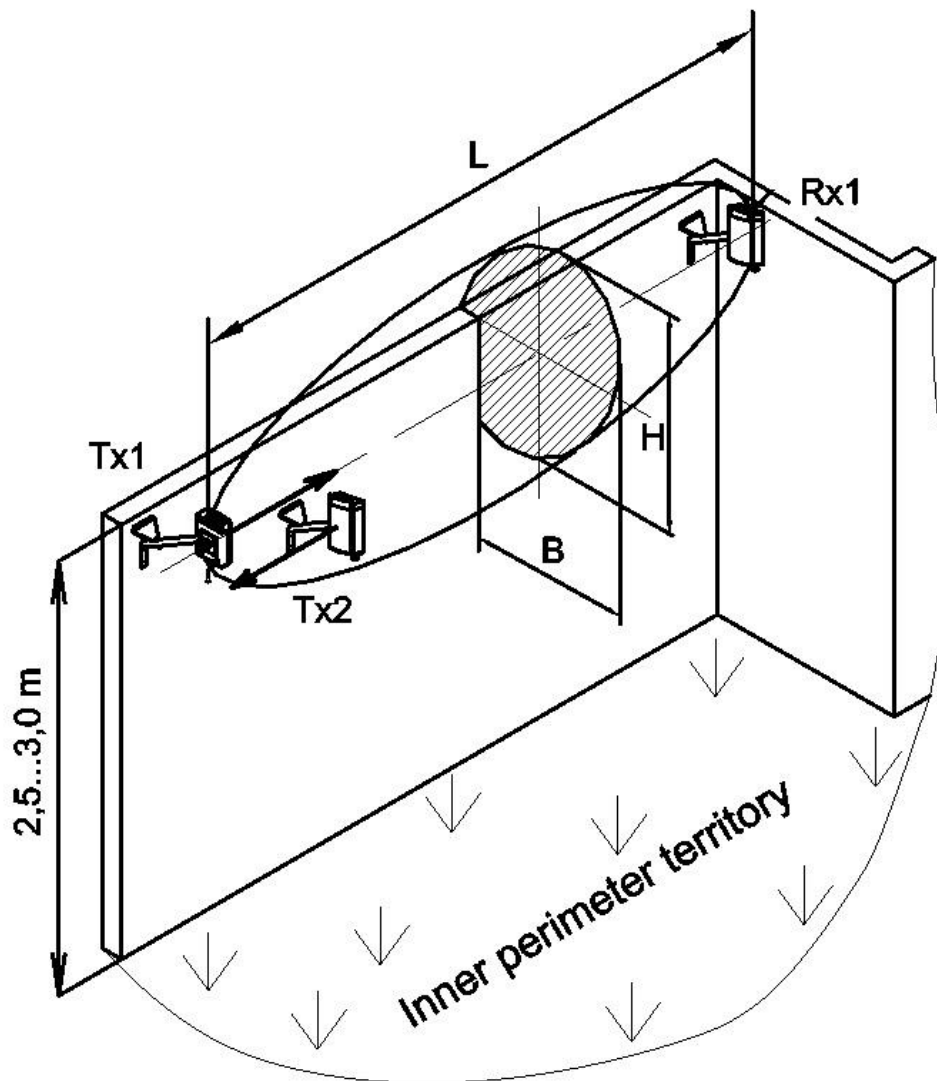

Fig. 2.4
2.2.5. The mounting kit (MK) for mounting on the top of the fence can be delivered on the customer order to protect the perimeter site from the intruder climbing over the fence and the intrusion into the window. The example of the sensor installation with the brackets application 350, 500 mm is given in fig. 2.4. The detection zone sizes are shown in Table 2.1. The angles to turn horizontally the sensor units on the brackets are 180°, vertically: up – at the angle of 17°, down - 40°.